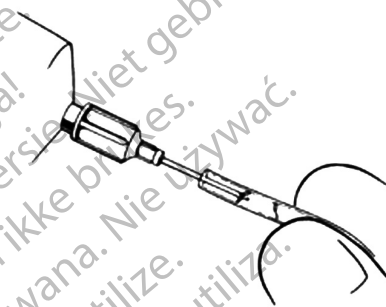

Figure 4-32. Flush Tubing and Connector
3. Use 22-gauge needle and 10 cc syringe filled with filling solution to flush connector and tubing (Figure 4-32) to remove particulate matter and air.